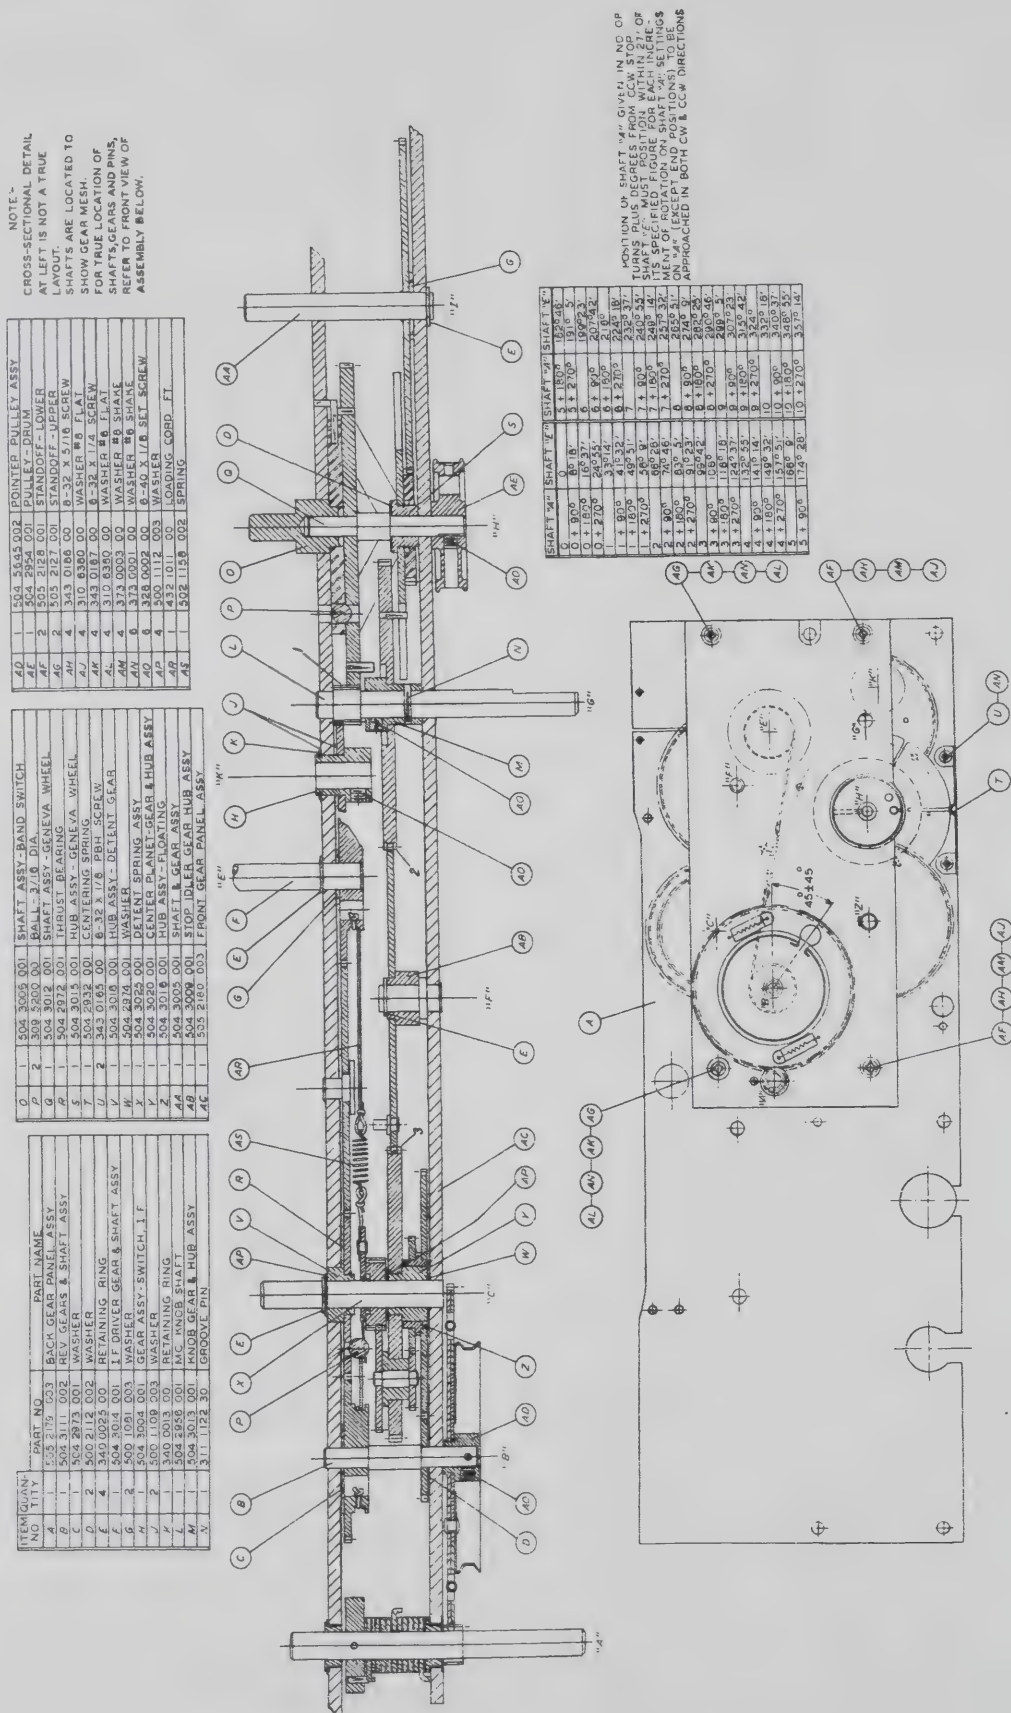

Figure 5-4. 51J-4 Dial and Bandswitch Gear Box
(1) Turn shaft G (BAND CHANGE) clockwise to the stop below band 1. Turn shaft A counterclockwise to the stop.
(2) Scribe a mark across the 85-tooth spider gear that carries the planetary gears, and across the 90-tooth stop-pin gear, using the top of the front gear panel as a guide.
(3) Scribe a radial mark, precisely under the Geneva wheel detent, on the 144-tooth gear that has two stop pins attached.
(4) Using the circumference of the Geneva wheel as a guide, scribe a mark on the 85-tooth gear that drives the Geneva wheel.
(5) Scribe a mark through the edge of the small dial cord pulley and the front gear panel.
(6) Remove pin from hub of large dial cord pulley.
(7) Remove large dial cord pulley and gear.
(8) Remove small dial cord pulley.
(9) Remove retaining ring from shaft I (shown as shaft Z in the front view of gear plate in figure 5-4).
(10) Using a pair of right angle TRUARC pliers or two bent (right angle) scribes, remove retaining ring from shaft F.
(11) Measure and record the length of loading spring using a pair of dividers.
(12) Remove four mounting screws from front gear panel.
(13) Remove front gear panel, being very careful not to let shafts ride up with plate. While removing this panel, do not allow gears to unmesh or rotate.
(14) Keep shim washers with respective gears or shafts.
(15) Before moving or disengaging any gears other than the 90-tooth gear on shaft F, scribe a line through detent spring, 48-tooth detent gear, and rear gear panel, and another line through the 52-tooth gear on shaft E and rear gear panel.
(16) Mark all gears being removed in such a manner that they may be identified later for reassembly.
(17) If the overtravel coupler is removed, note that the disk and gear are detented. Do not lose detent ball.
(18) Make all necessary repairs. If any parts that have been scribed are to be replaced, be sure to scribe the new parts in exactly the same manner before placing them in the equipment. If the loading cord is to be replaced, form a small loop at one end of each of the two pieces to provide anchors for the spring. Push free ends of the cords through the proper pulley-holes. Knot the free ends after allowing for five inch lengths of cord between the loops and knots. Coat the knots with Duco cement.
(1) Shaft G should now be against the clockwise stop, and should detent when turned counterclockwise approximately 45°. The ball on shaft C will now detent shaft G every 180°.
(2) When shaft G is turned counterclockwise 7-1/2 revolutions, or 15 detent positions from the first detent position, the pin in the 144-tooth gear on shaft H (figure 5-4), and the radial pin on the overtravel disk rotate clockwise until the radial pin just touches or is about to touch the pin in the rear gear panel. Further rotation of shaft G causes the pin in the gear to leave the radial pin that was stopped by the pin in the rear gear panel. Thus the overtravel coupler output shaft, which drives r-f switches S101 through S107 (figure 4-2), rotates 300° for the first 16 detent positions of shaft G and remains at that setting for further counterclockwise rotation of shaft G.
(3) Shaft G should rotate 14 more detent positions or 7 revolutions from the sixteenth detent position, and should hit the counterclockwise stop approximately 45° past the thirtieth detent position. If the stop pins intersect before this, adjust them by changing phase relations of the gears at points 1, 2, and 3, shown in figure 5-4. Before deciding to change the relative positions of these gears, double check the conditions in steps (1), (2) and (3). If instructions in paragraphs 5.6.2. and 5.6.3. were followed precisely, operation of the BAND CHANGE
(r) Replace large dial cord pulley and gear assembly as follows: Turn shaft A to counterclockwise stop. Make sure that the 52-tooth gear on shaft E and the 48-tooth detent gear on shaft C are still set at their respective scribe marks. Place pulley and gear assembly far enough on shaft B to engage the rear section of the split gear with the 15-tooth gear on shaft A. Be sure the groove-pin holes on shaft and hub are lined up and that the pulley slot is within  $45^{\circ}$  of the position shown in figure 5-4. Rotate front section of split gear so that springs stretch to  $\frac{3}{4}$  inches. Engage front section with 15-tooth gear on shaft A. Replace groove pin and tighten set screw.